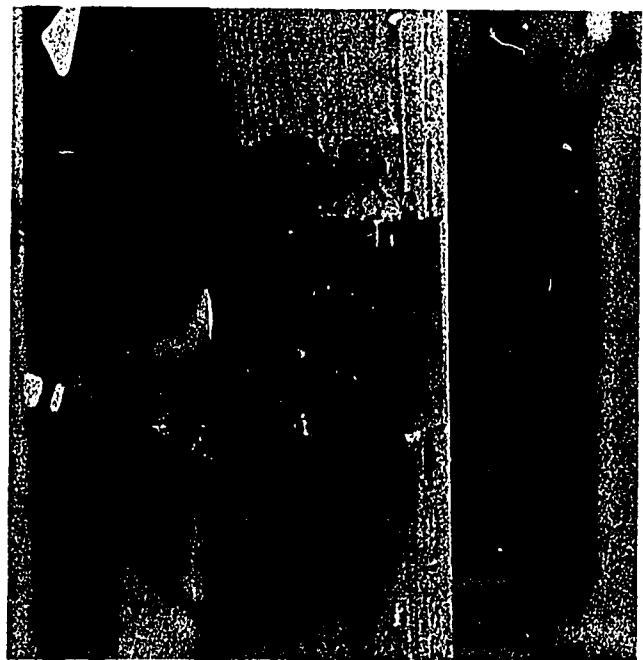

Fig. 52-9. Nailing Switch Box to Studding
6. Nail the switch box in place as in Fig. 52-9. Nail the duplex box in place as in Fig. 52-10.